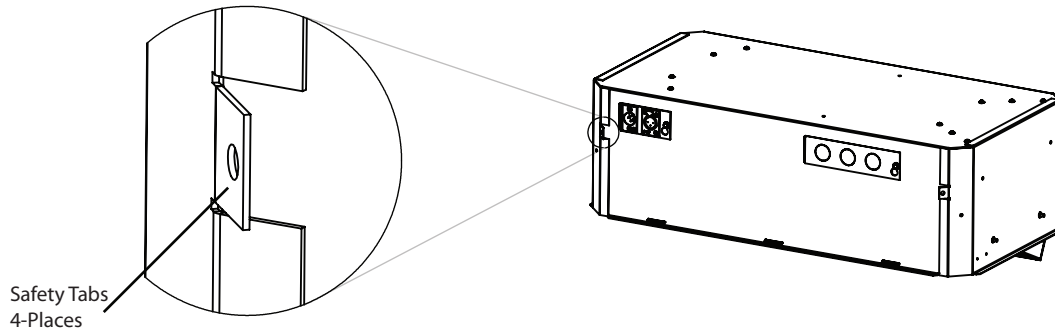

Figure 3
6. Install "safety wires" on the tabs on the side of the fixtures and attach to the building structure, in compliance with local codes (Figure 3). **Brightline** recommends not relying on the t-track alone to hold the weight of the